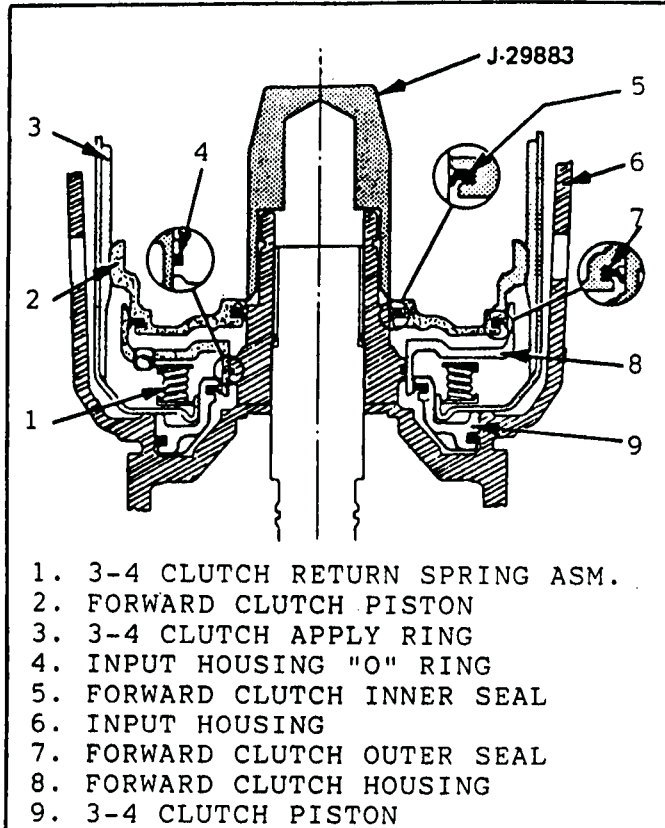

Figure 88
4. Install the 3-4 clutch apply ring on top of the 3-4 clutch piston, shown in Figure 88.
5. Install new "O" ring into input housing groove as shown in Figure 88.
6. Install the 3-4 clutch return spring assembly on top of the apply ring. (See Figure 88).
7. Install the forward clutch housing into the input housing as shown in Figure 88.
9. Install new inner and outer lip seals on the forward clutch piston. The lips on the seals must face direction shown in Figure 88.
10. Install the forward clutch piston in forward clutch housing, using tool J-29883, as shown in Figure 88.